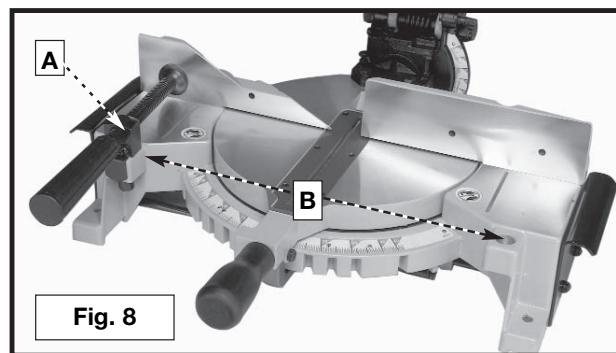

Fig. 8
Position the work clamp in one of the two holes (B) Fig 8 in the left or right side of the base. Use this clamp, especially with short workpieces.